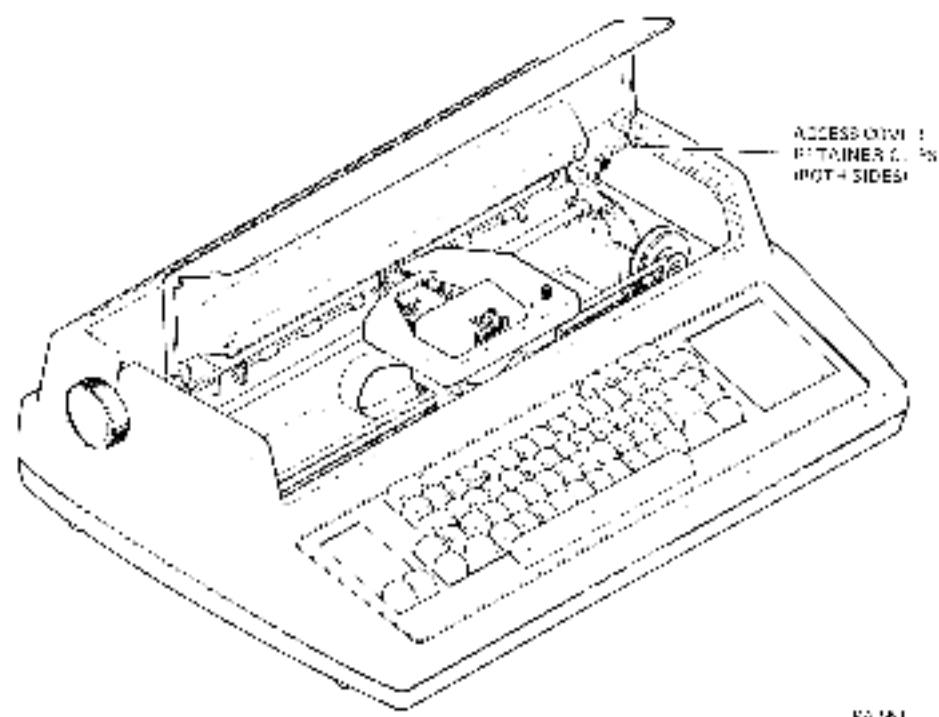

Figure 2-6 Access Cover Removal
2. Lift the access cover and press the two retainer clips toward the rear of the terminal (Figure 2-6). Remove the cover.
2. To remove the access cover, lift the access cover and press the two retainer clips (Figure 2-6). Lift the access cover away from the printer housing.